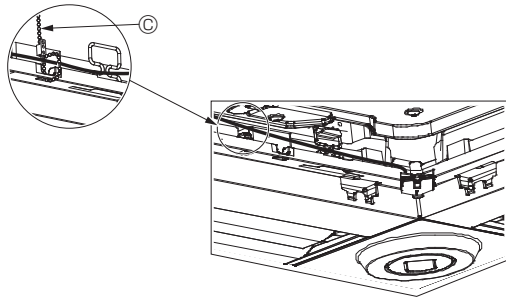

Fig. 5-13
- Secure the i-See sensor and signal receiver wires to the panel with the fastener as shown in the diagram so that there is no slack in the wires, and then cut off the excess end of the fastener. (Fig. 5-13)
- If the position of the i-See sensor was changed from the "o" position (E) to the "□" position (F), change the switch settings. (Refer to page 10.)